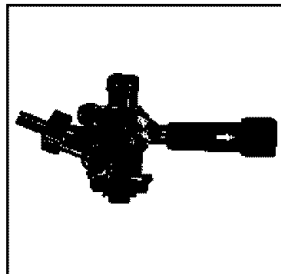

Fig. 10
19. Making the connection between the Keg Coupler and Beer Keg: Before making (opening) connection between the keg coupler and beer keg, make sure the beer tower faucet is in the closed position. (faucet handle straight back) To engage the tank connection, pull the keg coupler handle out and push down until it locks into position. Listen for positive "click" of the pull handle in the final downward position. See Fig. 10
- Pull keg coupler handle out and downward until it locks into position. See Fig. 10